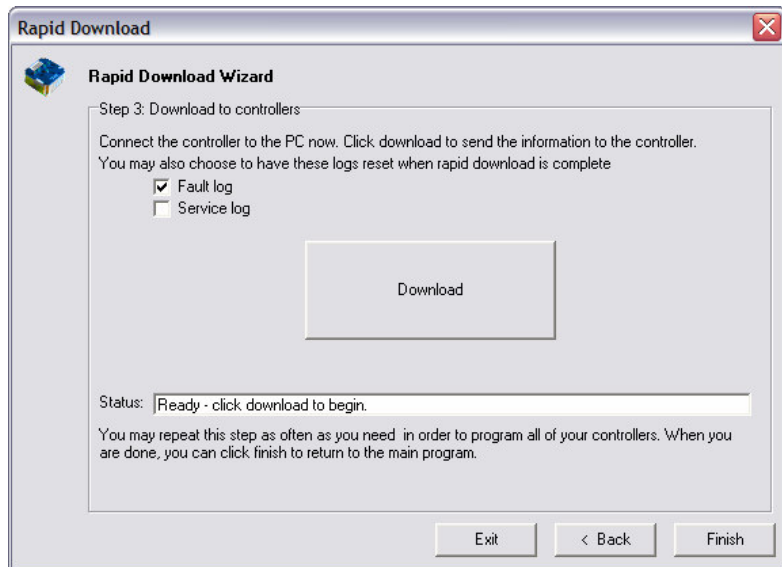

Figure 17: Rapid Download Wizard - Step 3.
- Download to Controllers.** The system now has all the information it requires. Ensure that the Controller System is connected to the PC and is powered up ready for the download. Click on the Download button to download the information to the controllers. PCpaK will automatically connect to the controllers, download the information, and then disconnect from the controllers. Once this is complete, the user may plug their Interface Module into a new controller system and repeat the download simply by clicking on Download again. This may be performed as often as is necessary. The user may also if they wish choose to have the fault or service logs reset after a rapid download operation. These logs will only be reset if rapid download completes successfully. See Figure 17.